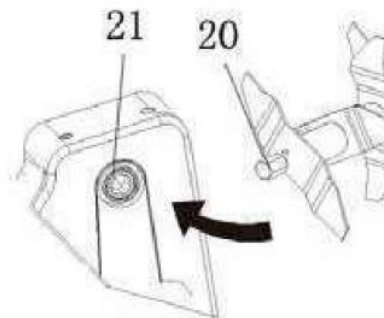

Fig. 11
5. Install the cylinder (18) on the drive shaft so that the pin (20) enters the gap in the drive shaft (21). (See Fig. 11)